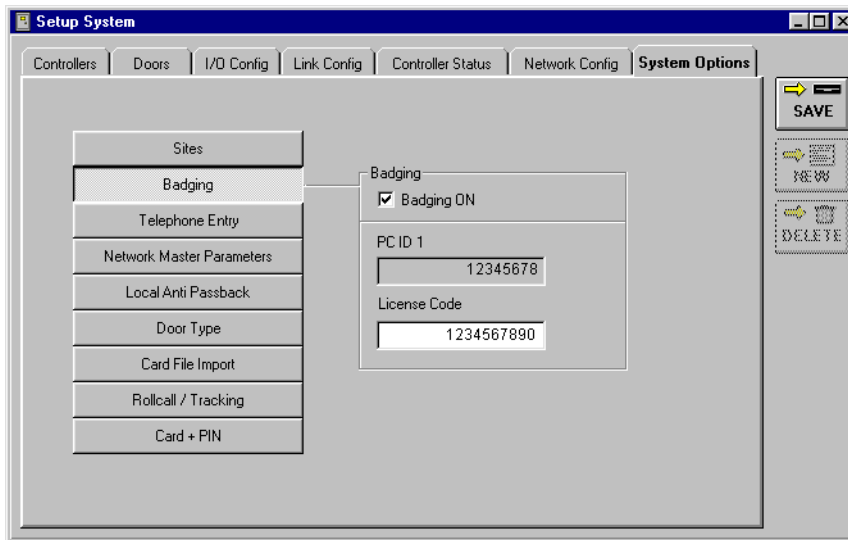

Figure 18: License Code Entered
9. The PC ID number should now be visible inside the PC ID box (see Figure 18). Have this number ready when you contact Keri Systems Customer Support to receive your License Code.
10. Enter the License Code received from Keri Systems in the “License Code” field. For example, type **1234567890** (see Figure 18).